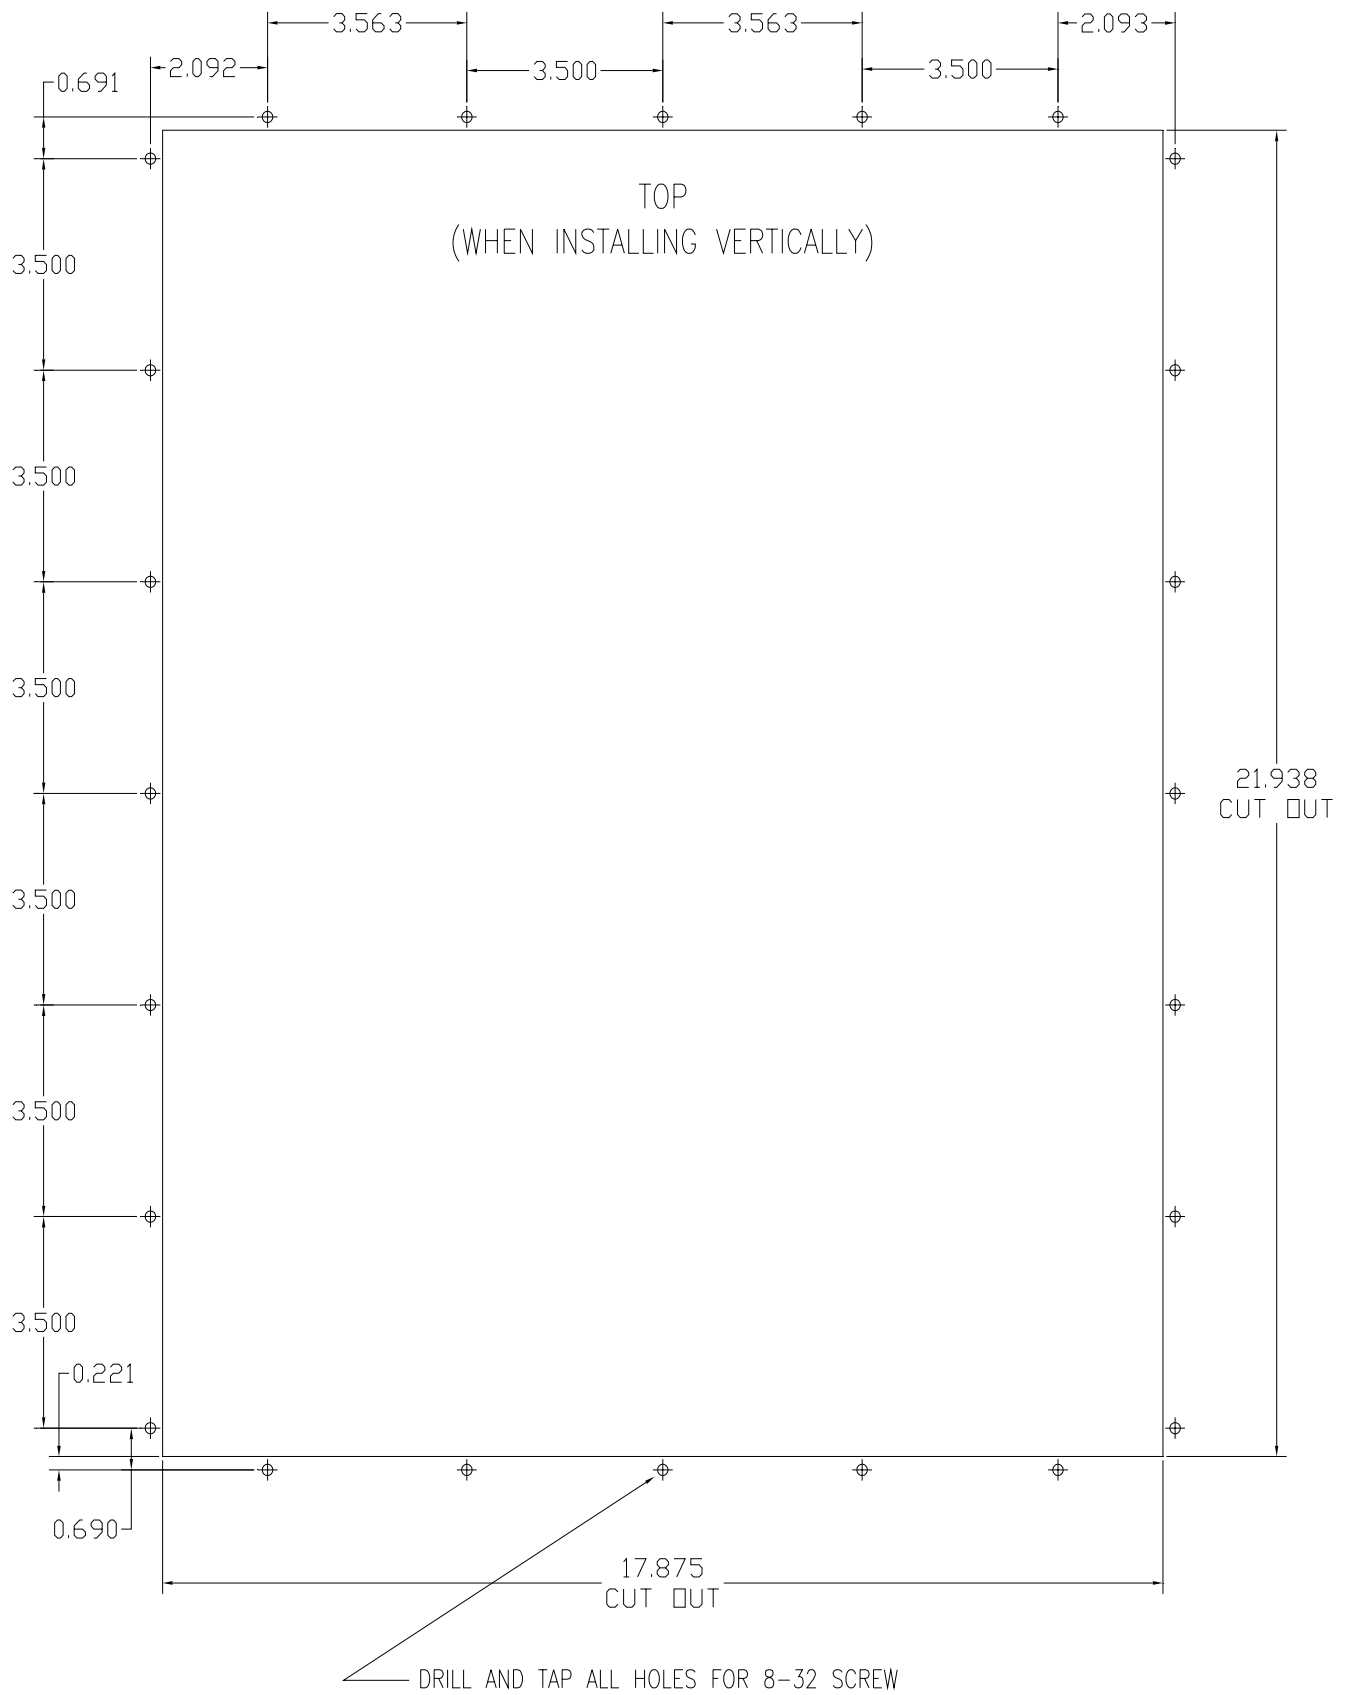

FIG. 2.3
To mount the 2500 Btu unit you will need to cut an opening in your enclosure and drill mounting holes. A cut-out drawing (Fig. 2.3) showing the cut-out size and hole locations has been included in this manual (see Fig. 2.3). The instructions for installing the air conditioner are printed below.
2. Layout the cut-out and hole pattern for the AC on the enclosure. Refer to Figure 2.3.